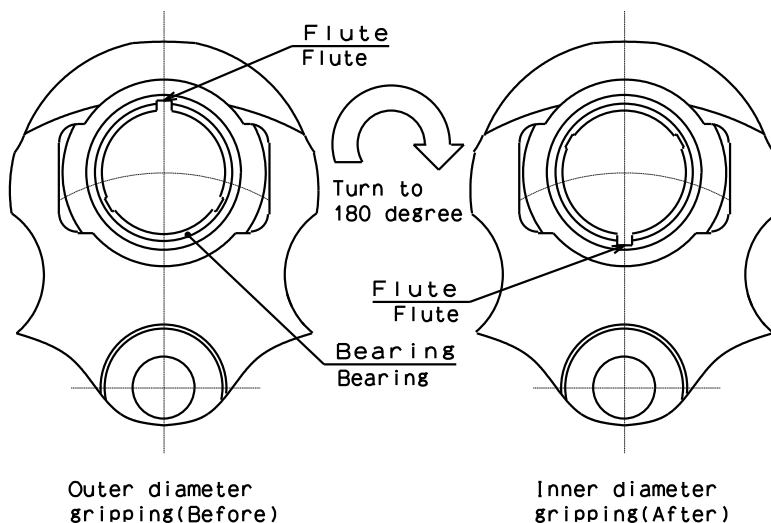

Fig.4-3
- ④Pull up the spherical bushing together with the master jaw to the extent that the side of spherical bushing appears a little.
- ⑤Remove to set the spherical bushing in the spherical bushing assembling jig. (See 6-1) (Check to see that no woodruff key falls.) If spherical bushing separated into two parts, apply the new sealing compound “Three bond company Seal compound 1212” to the separated surface after remove the old sealing compound, moisture, oil stain, and others. Then, set the spherical bushing in the spherical bushing-assembling jig.
- ⑥Turn the bearing to 180 degree horizontally to aim the flute of bearing. (See Fig.4-3)